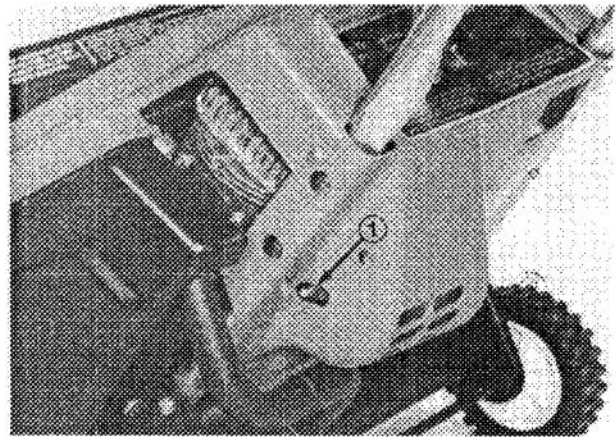

Figure 19
1. Mixture Adjustment Screw (Fig. 19) – Close screw by gently rotating it clockwise until a slight seating resistance is felt. Next, rotate mixture adjusting screw 1-1/4 turns counterclockwise.